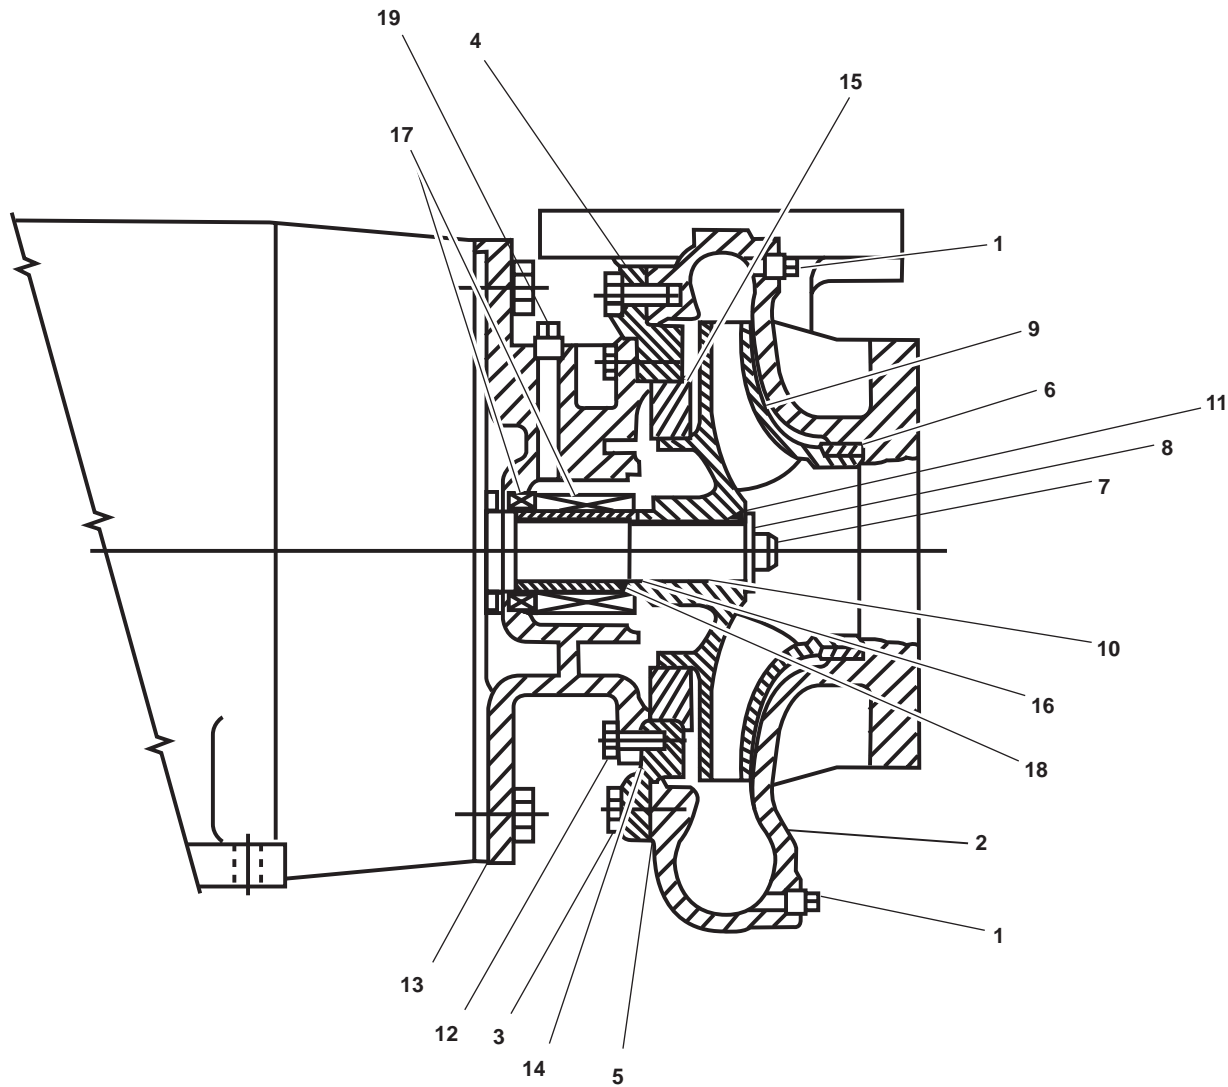

Figure 1. Reduction Gear Cooling Pump
- Remove the drain plugs (figure 1, item 1) from the volute (figure 1, item 2).
4. Remove the cap screws (figure 1, item 3) securing the backplate (figure 1, item 4) to the volute (figure 1, item 2). Separate the volute from the backplate.
5. Remove the gasket (figure 1, item 5) from the volute (figure 1, item 2). Discard the gasket.
6. Remove the front plate wear ring (figure 1, item 6) from the volute (figure 1, item 2). Discard the front plate wear ring.
7. Remove the impeller screw (figure 1, item 7) and the impeller washer (figure 1, item 8).
8. Remove the impeller (figure 1, item 9) from the shaft (figure 1, item 10). Remove the key (figure 1, item 11) from the impeller.
9. Remove the cap screws (figure 1, item 12) securing the backplate (figure 1, item 4) to the bracket (figure 1, item 13). Separate the backplate from the bracket.
10. Remove the gasket (figure 1, item 14) from the backplate (figure 1, item 4). Discard the gasket.
11. Remove the rear case wear ring (figure 1, item 15) from the backplate (figure 1, item 4). Discard the rear case wear ring.
12. Remove the snap ring (figure 1, item 16) from the shaft (figure 1, item 10). Discard the snap ring.
13. Remove the shaft seal assembly (figure 1, item 17) from shaft (figure 1, item 10). Discard the shaft seal assembly.
14. Remove the sleeve (figure 1, item 18) from the shaft (figure 1, item 10).
15. Remove the stuffing box plug (figure 1, item 19) from the bracket (figure 1, item 13).
2. Install the stuffing box plug (figure 1, item 19) in the bracket (figure 1, item 13).